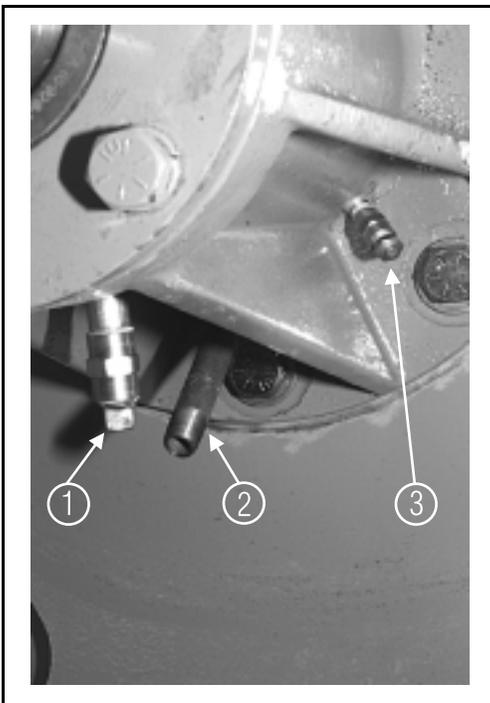

FIGURE 3 (MSSM0712AE)
2. Remove the drain plug (FIGURE 3) on the bottom of the main bearing housing and allow the bearing housing to drain completely. Inspect the leak-off, drained oil, and magnetic drain plug for water and/or metal particles. Water and/or metal particles can indicate worn or damaged seals and bearings. Install the drain plug.